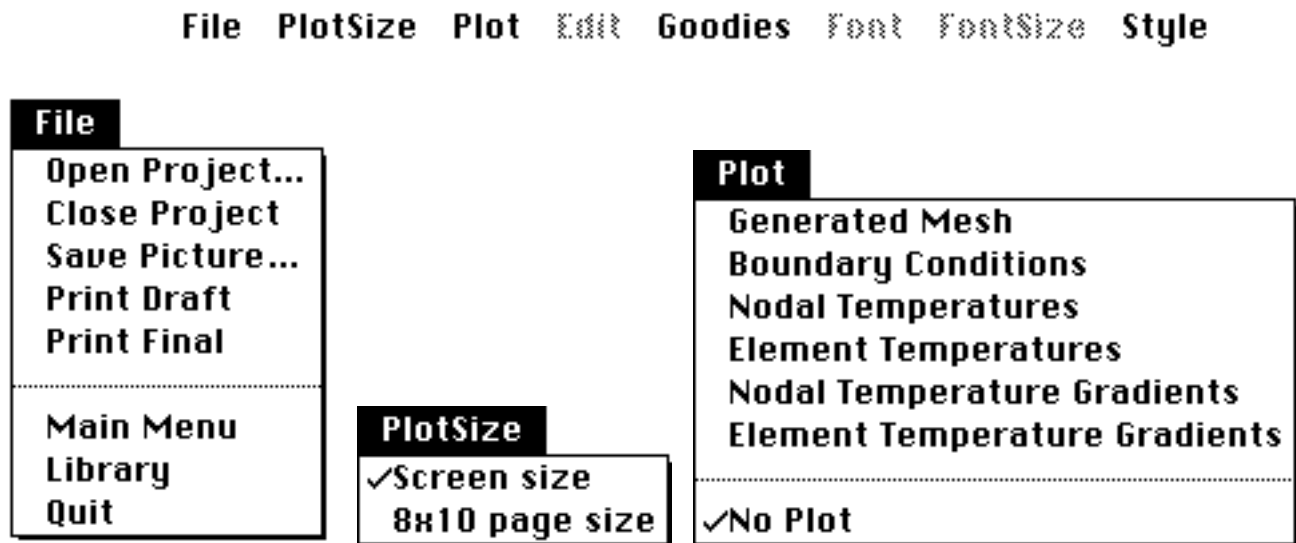

Fig 2.41 Plot menus
The File menu (Fig 2.41) contains the expected Open Project..., Close Project, Main Menu, Library and Quit commands. The Save Picture... command allows you to save the larger plots (described below) as MacPaint files. You can save the smaller screen size figures as MacPaint files using the customary command-shift-3 instruction. Use the Save Picture... command on the file menu to save the larger pictures. You can print the larger plots from within MP in draft and high quality modes on the ImageWriter. Use Print Final with the LaserWriter.
For each of the two sizes there are six available plots (Fig 2.41). A sample plot from the heat conduction example illustrates these plots.
- Select Library from the File menu (Fig 2.41).